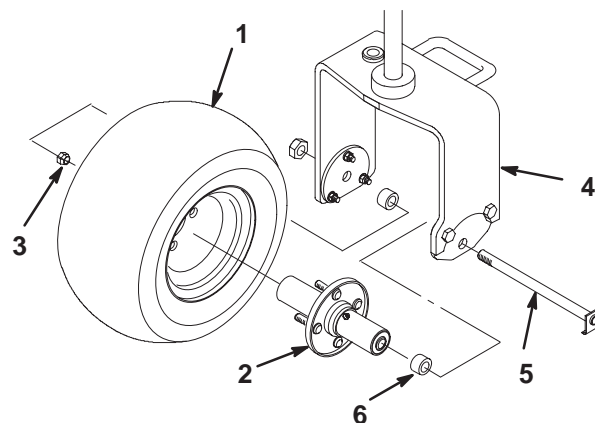

Figure 2
1. Mount the wheel hub to the rear wheel rim with 4 mounting nuts (Fig. 2). Torque the nuts to 70–90 ft.-lb.
2. Remove the wheel bolt and locknut from the wheel mounting holes in the rear castor fork (Fig. 2).
5. Position the bend of the wheel bolt head under the bottom edge of the adapter plate (Fig. 2). Install and tighten the locknut to secure the wheel to the castor fork. Do not overtighten the locknut as the wheel must rotate freely.